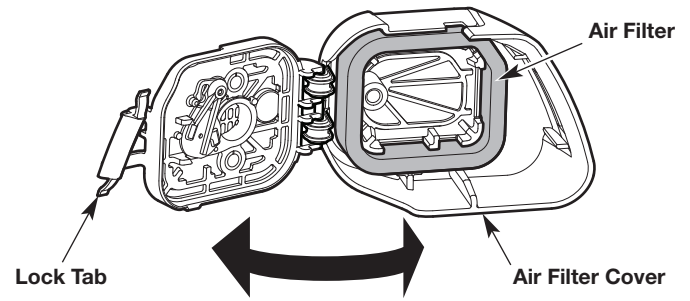

Fig. 21
1. Open the air filter cover: press in the lock tab and swing the air filter cover to the right (Fig. 21).
2. Remove the air filter from inside the air filter cover (Fig. 21).
6. Reinstall the air filter inside the air filter cover (Fig. 21).
7. Close the air filter cover: swing the air filter cover to the left and press it closed until the lock tab snaps into place (Fig. 21).